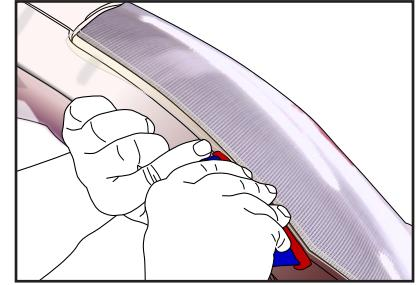

Figure 32
- In the case of curved rear windows between the window and the window seal using a squeegee. (FIG. 32)